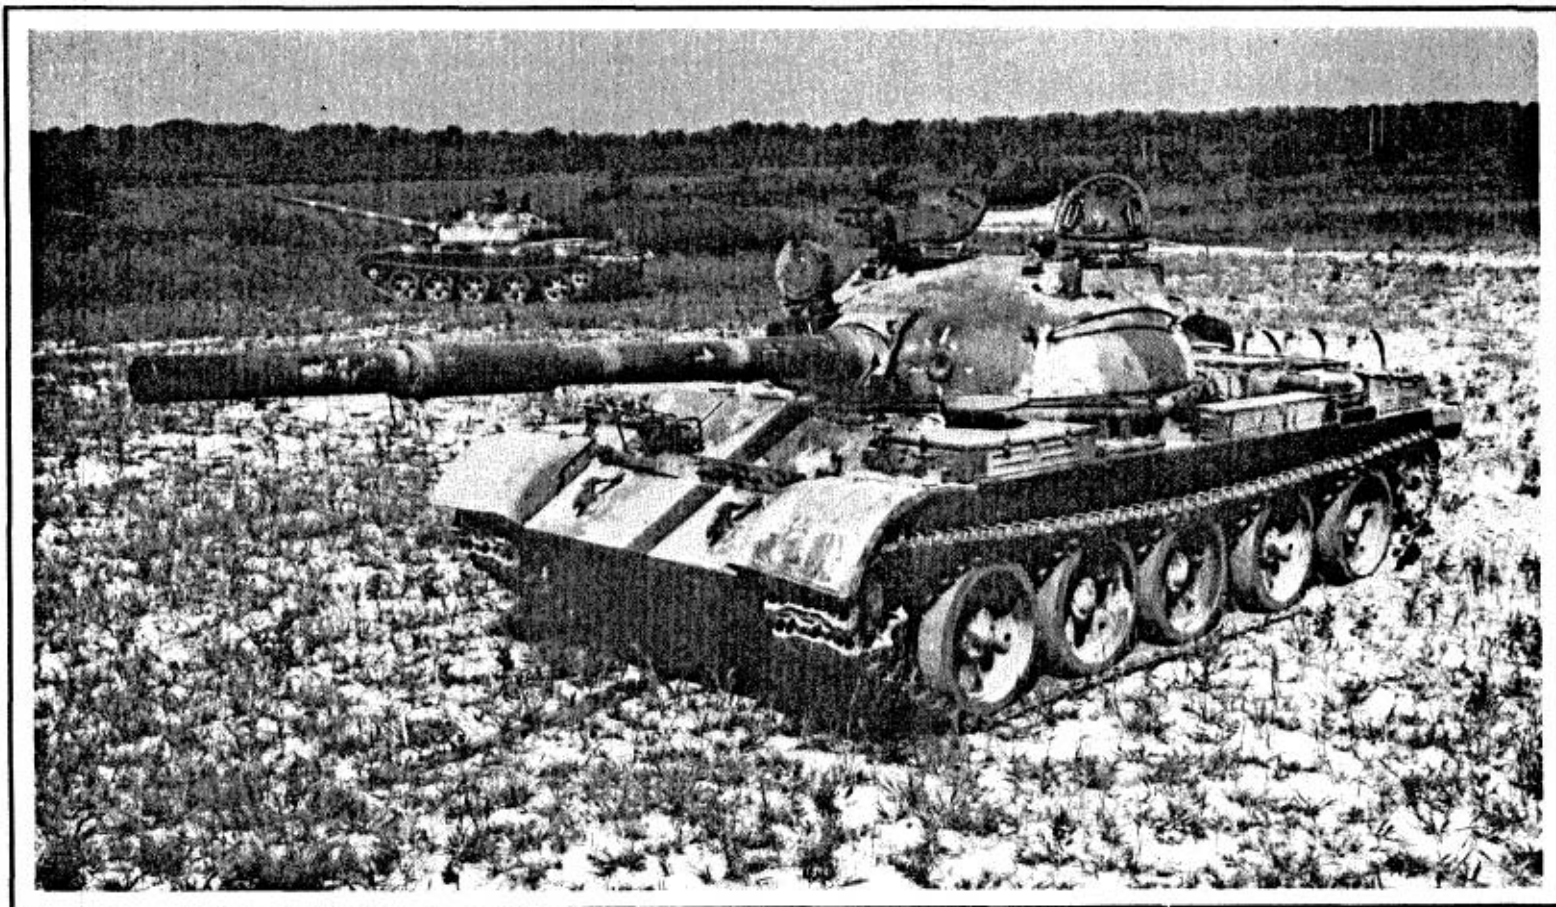

FIG. 1-1 THE T-62A SOVIET MEDIUM TANK
a. General. The T-62 series Soviet Medium Tank is a full tracked armored fighting vehicle (Illustrated in figures 1-1 to 1-6). It is a heavily armed combat vehicle designed to currently meet the bulk of Soviet armored forces needs.